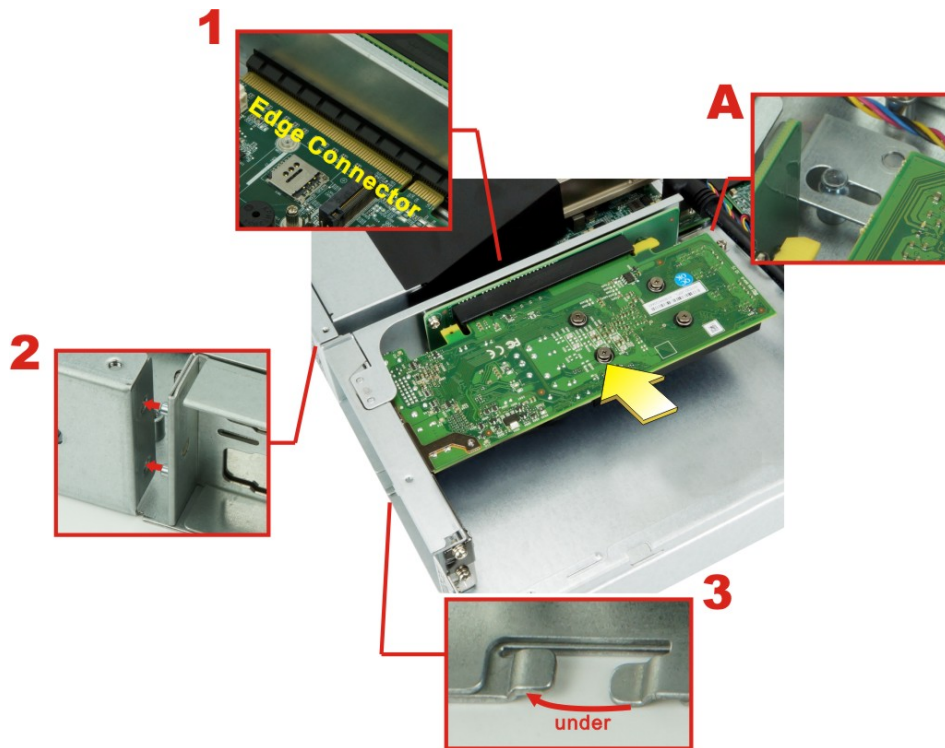

Figure 3-15: Expansion Slot Module Installation
Step 6: Place the expansion slot module back to the original position by hooking the slotted hole into the positioning stud in the chassis (**Figure 3-15 A**). Push the connector of the expansion slot module into the edge connector to install it.